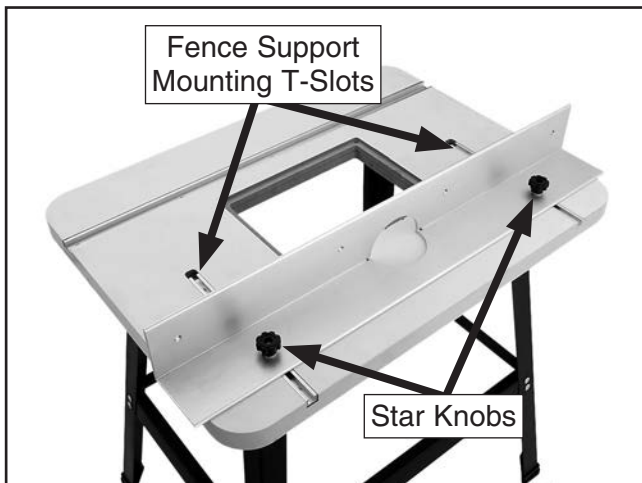

Figure 6. Fence support attached to the table top.
5. Install the (4) rubber feet onto the ends of the legs. Turn the stand and table assembly over, square up the stand, then fully tighten all the fasteners.
- Slide (2) M8-1.25 x 25 hex bolts into the table T-slots, place the fence support over the bolts, then secure it in place with (2) 8mm flat washers and M8-1.25 star knobs, as shown in **Figure 6**.